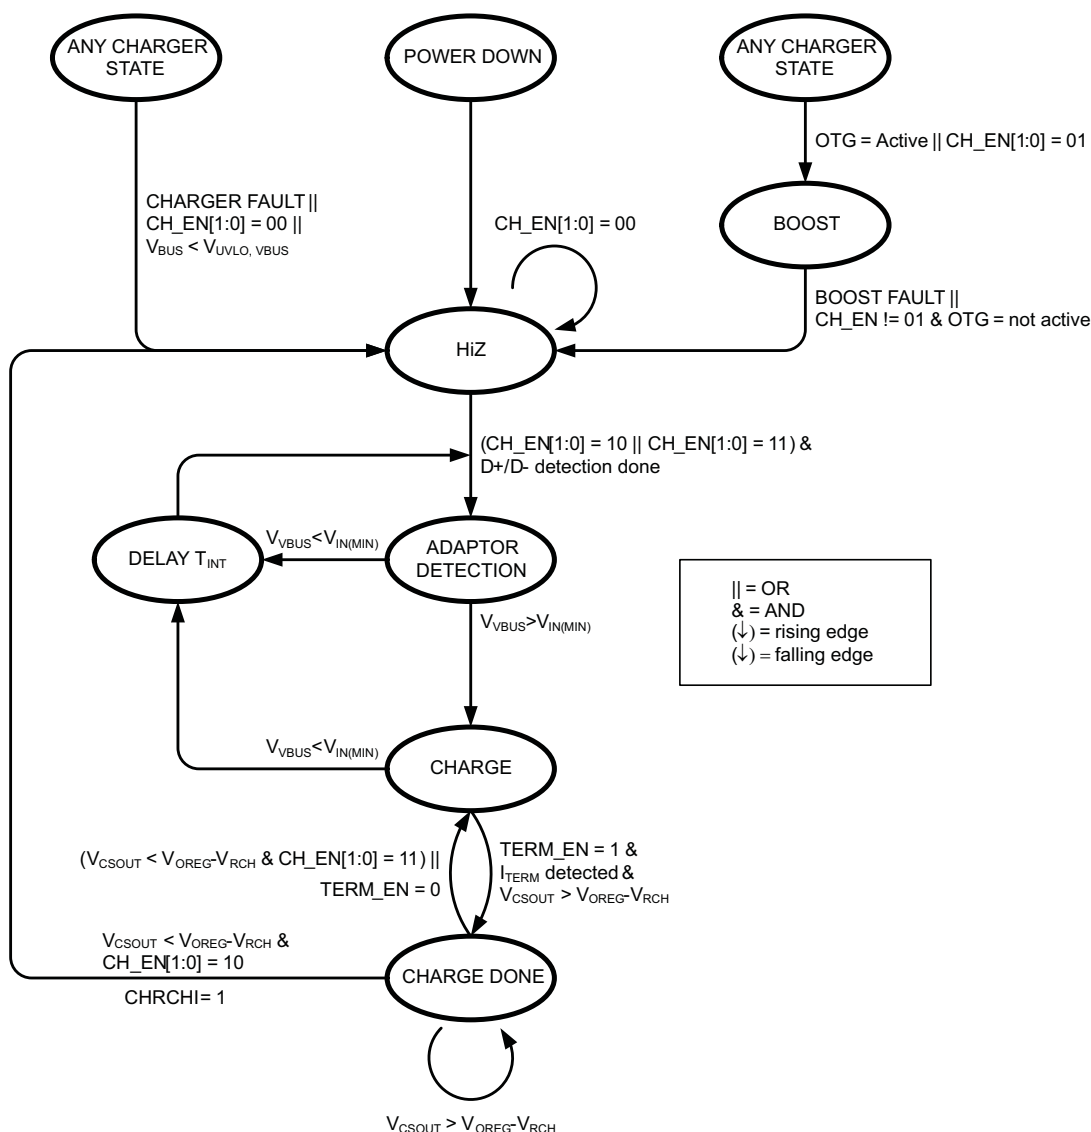
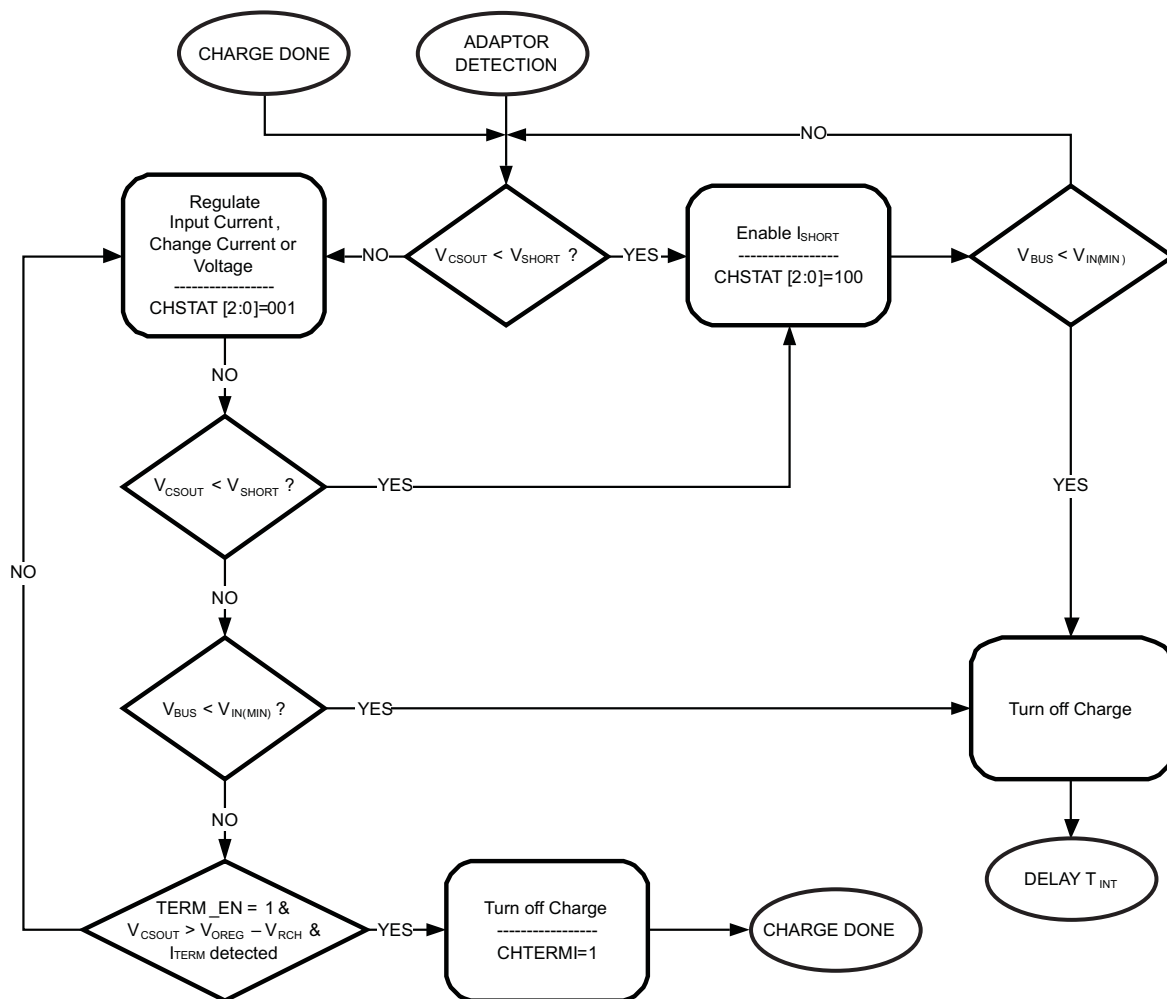

Figure 46. State Diagram of USB Charger Circuit
Figure 47. Detailed Charging Flow Chart
The global state diagram of the charger is shown in Figure 46 and the detailed charging algorithm in Figure 47. HiZ mode is the default state of the charger where Q1, charger PWM and boost operation is turned off. If any fault occurs during charging, the CH_EN[1:0] bits in the CONTROL register are reset to 00b (OFF), fault bits are set in the INT2 register, an interrupt is issued on the INT pin, and HiZ mode is entered. Charging is re-initiated by either host control or automatically if VBUS is power cycled.
- The device is in `CHARGE DONE` state (see Figure 46) and the `TERM_EN` bit is set from 1 to 0.